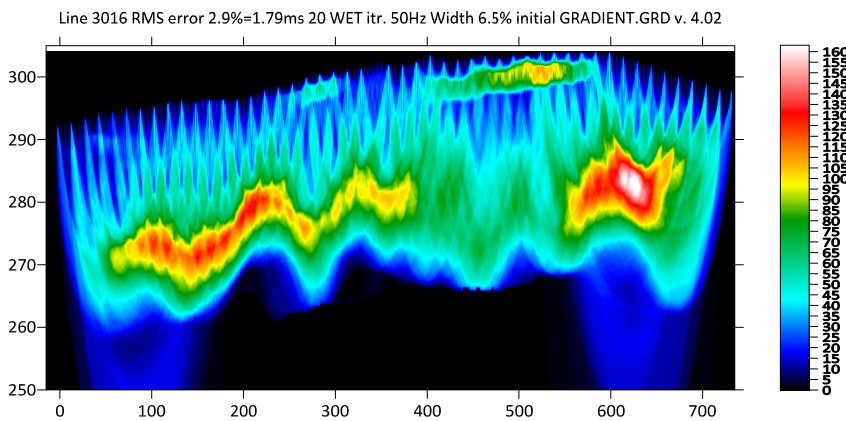
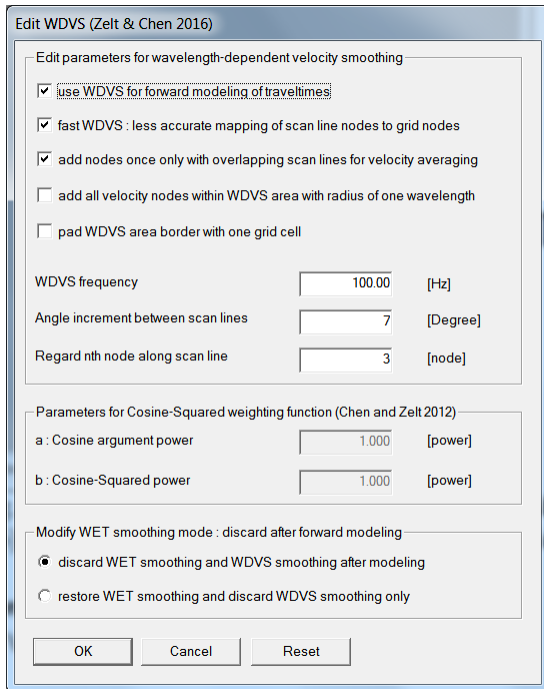

Fig. 8 : WET wavepath coverage plot obtained with Fig. 7. Unit is wavepaths per pixel.
Fig. 18 : *Model\WDVS Smoothing* with WDVS activated
Fig. 14 : same as Fig. 7 but WDVS activated at 100Hz with check box **Use WDVS for forward modeling** (Fig. 18). Note the enhanced velocity contrast between layers in the overburden, compared to Fig. 7.
Compare Fig. 7 (no WDVS smoothing but discard WET smoothing after forward modeling, Fig. 5) with Fig. 14 (WDVS activated with check box **Use WDVS for forward modeling**, Fig. 18). WDVS does help to further enhance velocity contrast between layers in overburden and improves fit with borehole stratigraphy described below Fig. 8.
Smooth inversion shown in Fig. 7 with WDVS deactivated (Fig. 5) and using 20 Steepest-Descent WET iterations took about 2 minutes on 2017 Apple iMac. This iMac comes with 2.3 GHz Intel Core i5 processor running 4 OpenMP threads under Windows 7/10/11 Pro 64-bit in Parallels Desktop 17 for Mac. The same *Smooth inversion* but with WDVS activated (Fig. 18) shown in Fig. 14 took about 6 minutes. We determined these WET runtimes under Windows 7 Pro 64-bit.
In Fig. 19 we image the *WDVSTIME.GRD* written to *c:\RAY32\DAT* folder during WET inversion with option *WET Tomo\WET tomography Settings\Write\Write blanked and mask grids and WDVS debug grids* checked. The color scale shows time incurred from center of WDVS area along scan lines and using current WET grid velocity, in seconds. *WDVS frequency* of 100Hz (Fig. 18) corresponds to one period of 0.010s. See (Zelt and Chen 2016) Fig. 4 and equation (1).
You may notice that scan lines in Fig. 19 are not completely straight when zooming into this figure. To obtain more straight scan lines uncheck option *Fast WDVS* in *Model, WDVS Smoothing* dialog (Fig. 18) and click *OK* button. Now reselect *Smooth invert, WET with 1D-gradient initial model*.